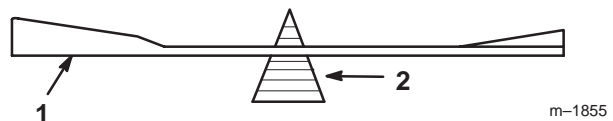
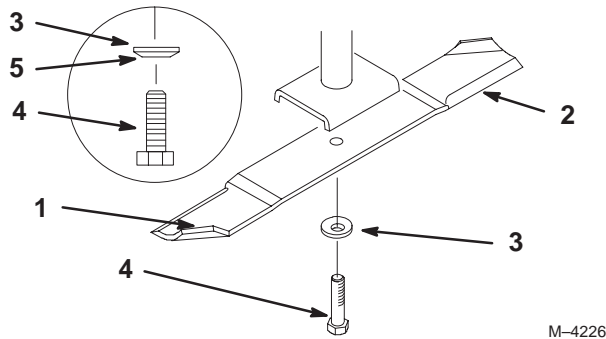

Figure 37
Figure 38
1. Hold the blade end using a rag or thickly-padded glove. Remove the blade bolt, spring disk and blade from the spindle shaft (Fig. 38).
2. Check the balance of the blade by putting it on a blade balancer (Fig. 37). If the blade stays in a horizontal position, the blade is balanced and can be used. If the blade is not balanced, file some metal off the end of the sail area only (Fig. 38). Repeat this procedure until the blade is balanced.
1. Install the blade onto the spindle shaft (Fig. 38).
2. Install the spring disk and blade bolt (Fig. 38). **Torque the blade bolt to 85–110 ft-lb (115–150 N·m).**